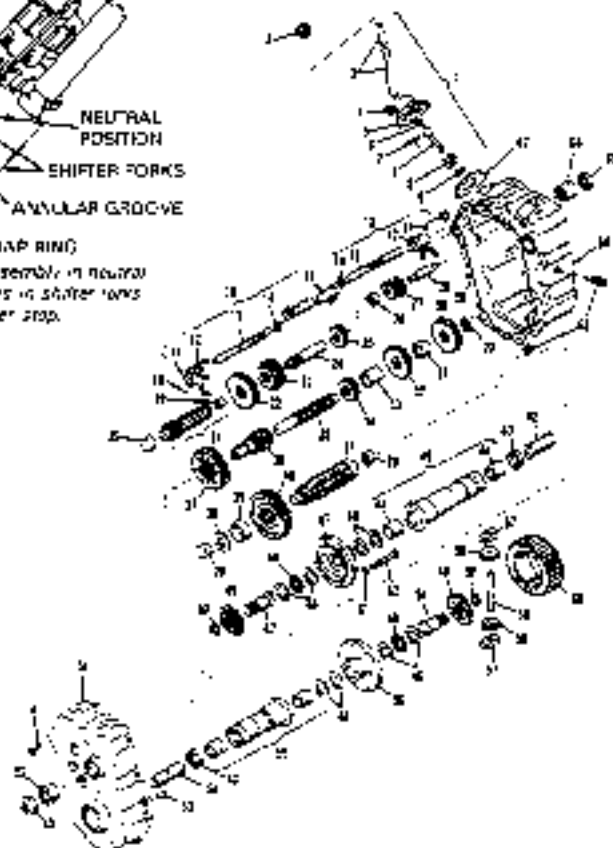

Fig. 2—Exploded view of transaxle used on models B207, B208
Separate cover from case and lift cover up off the axle. Brake shaft (30—Fig. 2) and idler gear (29) will be removed with cover. Remove output shaft (41) with output gear (40), spacer (39) and washer (38). Withdraw the differential and axle shaft assembly and lay aside for later disassembly. Hold upper ends of shifter rods together and lift out shifter rods, forks, shifter stop, shaft (20) and sliding gears (22 and 23) as an assembly. Remove reverse idler gear (27), idler shaft (28) and spacer (26), then remove idler shaft (31) along with idler gears (32, 34 and 36) and spacers (33 and 35). Withdraw input shaft (24) and gear (25) from case. To remove brake shaft (30) and gear (29) from cover, block up under gear (29) and press shaft out of gear while being careful that pressure is not applied to cover during operation. Renew seals and bushings in axle housings (51 and 60) as required.